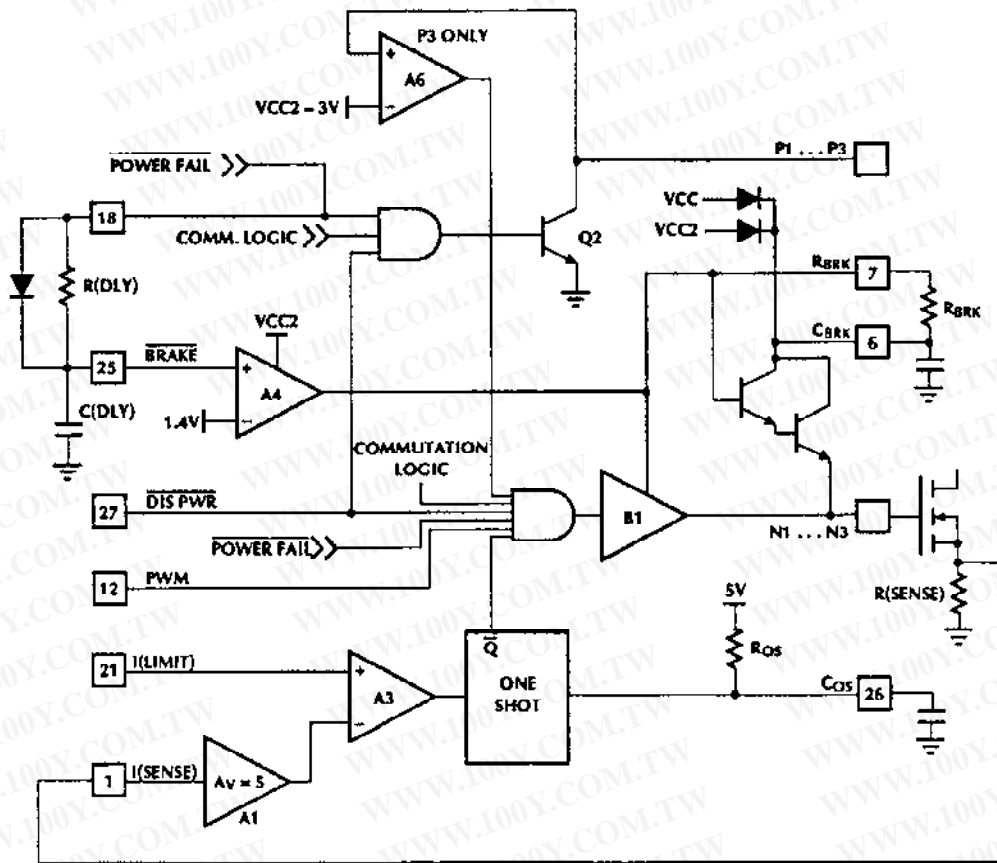

Figure 7. PWM Current Control, Gate Drive and Braking Circuits
As shown in Figure 7 the braking circuit pulls the N-channel MOSFET Gates high when the BRAKE pin falls below a $2 \times V_{be}$ threshold (V_{th}). After a power failure, C(DLY) is discharged slowly through R(DLY) providing a delay for retract to occur before the braking circuit is activated. The P-channel MOSFETs are turned off well before braking occurs. As soon as the V_{th} threshold is reached, the braking comparator with hysteresis will accelerate the transition and tri-state the N-channel buffer (B1, refer figure 7) before C(BRK) dump charges into the N-channel Gates. This is to ensure that no charge from C(BRK) is lost through the pull-down transistors in B1, (figure 7). The C(BRK) will continue charging the N-channel Gates, to ensure braking, even when VCC2 (motor BEMF rectified through the MOSFET body diode), drops due to the braking process. An external signal could be used to brake the motor. To accomplish this set pin 17 = '1', pin 19 = '0'. This will pull pin 26 below the threshold to activate the braking circuit.
1. When transitioning from mode 0 to mode A (see table 1) P3 goes from on to off at the same time N3 goes from off to on. If P3 turns off slowly and N3 turns on quickly, cross conduction may occur. This condition has been prevented inside the IC on the ML4420 through the addition of comparator A6 on the P3 output (Fig. 7).